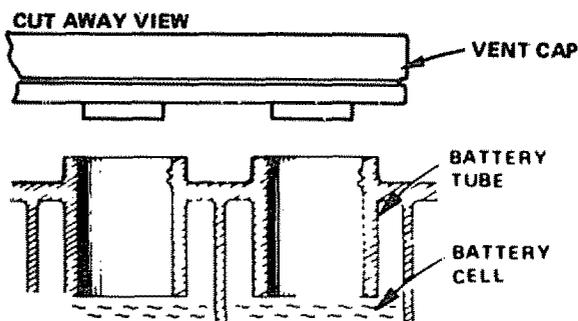

FIGURE 26
- a. Electrolyte solution level in each Battery Cell should be even with bottoms of tubes in cells (Fig. 26). Add distilled water if necessary. **NOTE: DO NOT OVERFILL.**